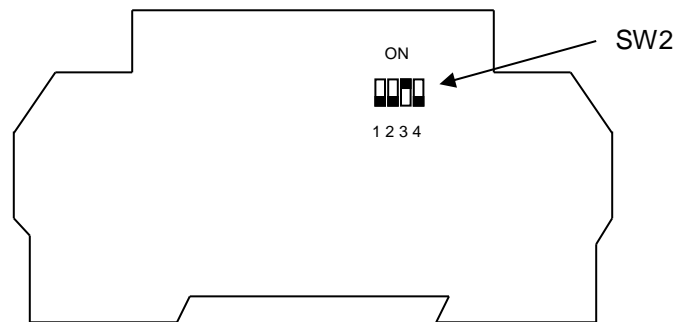

Figure 2 – SW2 Switch Settings
1. Set SW2 switches to appropriate mV/V setting. See location in Figure 2.